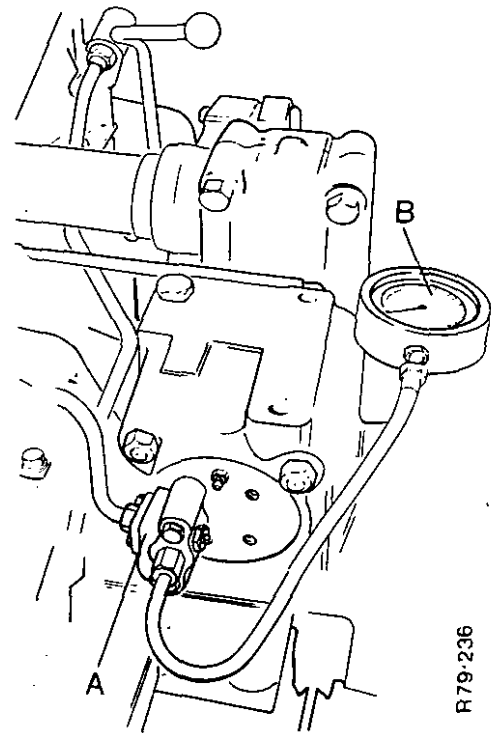

FIGURE 187. CHECKING THE OIL PRESSURE IN THE SYSTEM
6. Remove the pressure gauge or flow meter from the take-off valve or adaptor plate. If a take-off valve is fitted move the operating lever to the neutral position. Fit the pressure gauge to the number 1 (top) port on the three-way valve or to the connector if a three-way valve is not fitted (see Figure 187). Put the operating lever for the three-way valve in the '1' position (if fitted). Start the engine. Move the quadrant lever rearward until it is against the quadrant spring. The reading on the pressure gauge must be more than 140 kg/cm^2 . If the pressure of the oil is less than 140 kg/cm^2 , one or more of the following will be the cause: